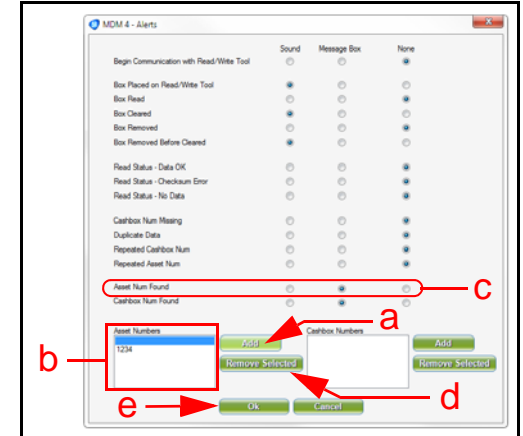
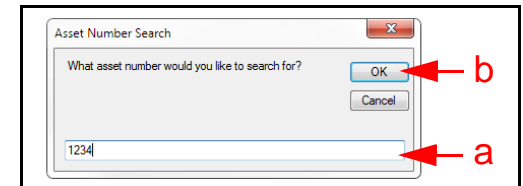
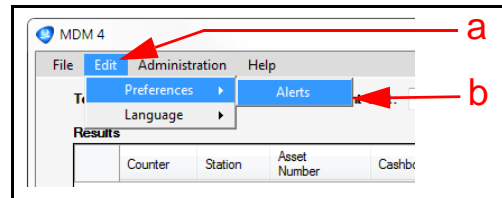
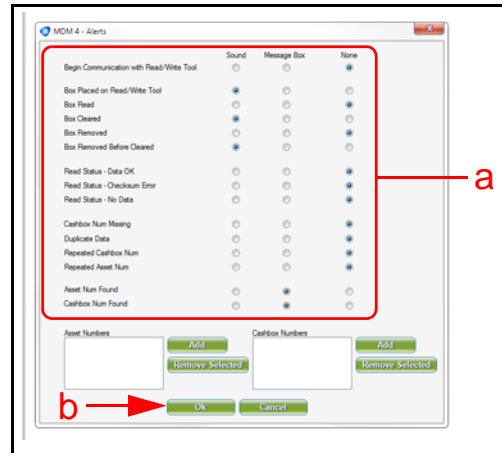

Figure 23 Asset No. Alert Setting Screen
Figure 24 Enter Asset Number Dialog Box
Figure 21 Select Alerts Menu
Figure 22 Alert Selection Screen
1. On the MDM4 Main Screen, click on the 'Edit' pull-down Menu, then select 'Preferences' > 'Alerts' (refer to Figure 21 a and b). The 'MDM4 Alerts' Screen shown in Figure 23 will appear.
2. Click on the 'Add' Screen Button (Figure 23 a). When the 'Asset Number Search' dialog box shown in Figure 24 appears, enter the desired Asset Number into the Asset Number field (Figure 24 a), then click the 'OK' Screen Button (Figure 24 b) to return to the MDM4 Alerts Screen.
NOTE: The type of Alert received when a specified Cash Box is placed on a Read-Write Tool depends on the Alert preference type selected for 'Asset Num Found'. Click to select the desired Alert type (Figure 23 c).
4. Once an Asset's Cash Box has been found (and the desired Alert sounded or displayed), it may be desirable to remove it from the list. To remove an Asset's Cash Box from the list of Asset Numbers, click on the desired Asset Number (Figure 23 b), and then click on the 'Remove Selected' Screen Button (Figure 23 d).
5. When finished adding or removing numbers from the list, click the 'OK' Screen Button (Figure 23 e) to save the settings and return to the MDM4 Main Screen.
1. Click on the 'Edit' pull-down Menu on the MDM4 Main Screen (Figure 21 a), select 'Preferences' > 'Alerts' (Figure 21 b). The MDM4 'Alert' Screen shown in Figure 22 will appear.
3. When all Alert Options have been selected, click the 'OK' Screen Button (Figure 22 b) to return to the MDM4 Main Screen.